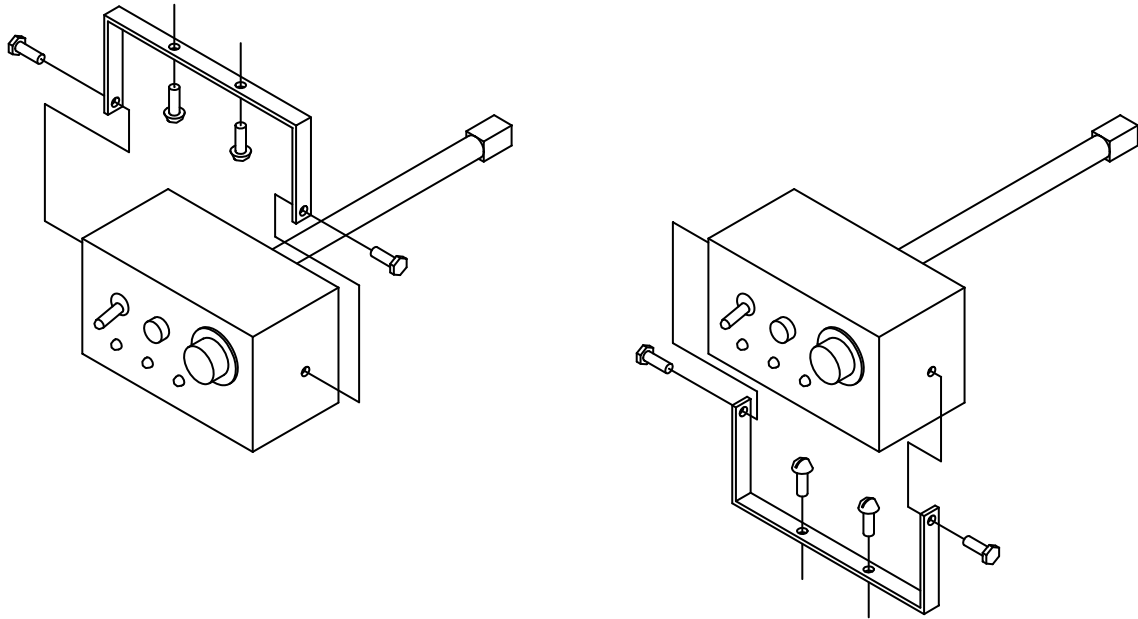

Figure 4.
- 2) The controller can be mounted either above or below the mounting bracket. Refer to Figure 4. Choose the best position that will not interfere with operation of the vehicle or visibility. DO NOT mount in a location that an occupant could contact during a crash.